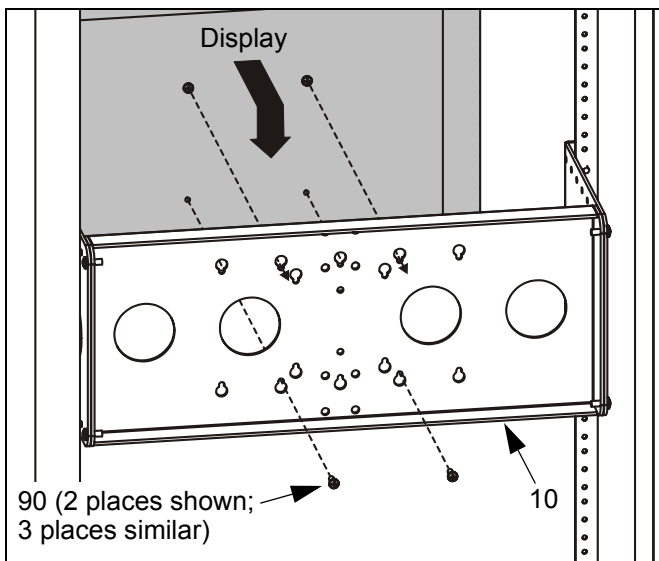

Figure 5: Install Display - Flush Mount
- Pick up and orient display/interface so that the screws installed in the previous step fit into the upper mounting holes in bracket (10) (See Figure 5). Lower display firmly into place.
- From the back of the equipment rack, and using Phillips screwdriver, install remaining two (or three, if applicable) screws (90) through bracket (10) into the lower display mounting holes (See Figure 5).